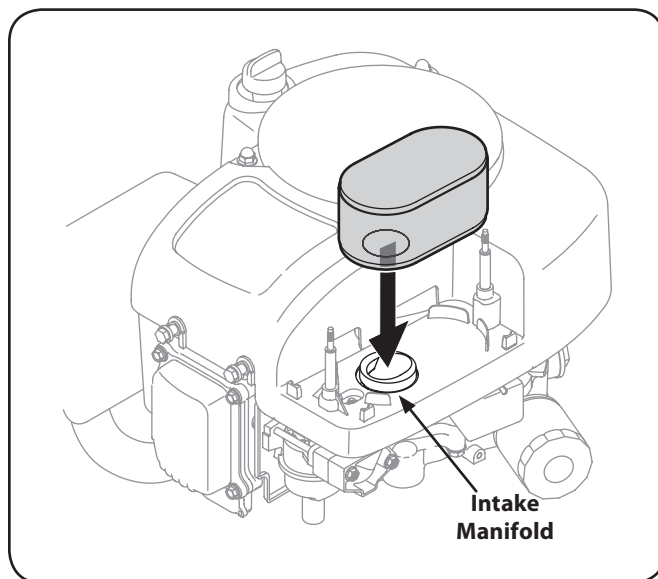

Figure 6-7
5. Attach the new air filter with foam element, aligning the hole in the air filter with the intake manifold. See Figure 6-7.